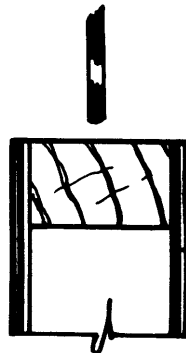

Fig. 6
21. Complete the vertical section through part of the glazed opening in an external flush door shown in Fig. 6 to include a method of retaining the glass.